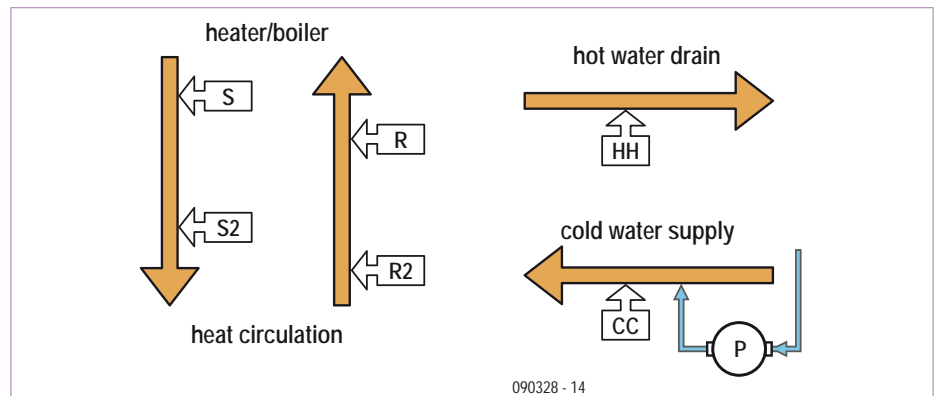

Figure 3. Sensor locations in the heating system. S = Supply, R = Return.
**Figure 3** shows where the six temperature sensors should be fitted. It is important to ensure that there are no active branches between sensors S and S2 on the supply line or between sensors R and R2 on the return line (German *Rücklauf*, RL). By contrast, three-way valves between the two sensor locations are not a problem as long as they are closed while measurements are being made.